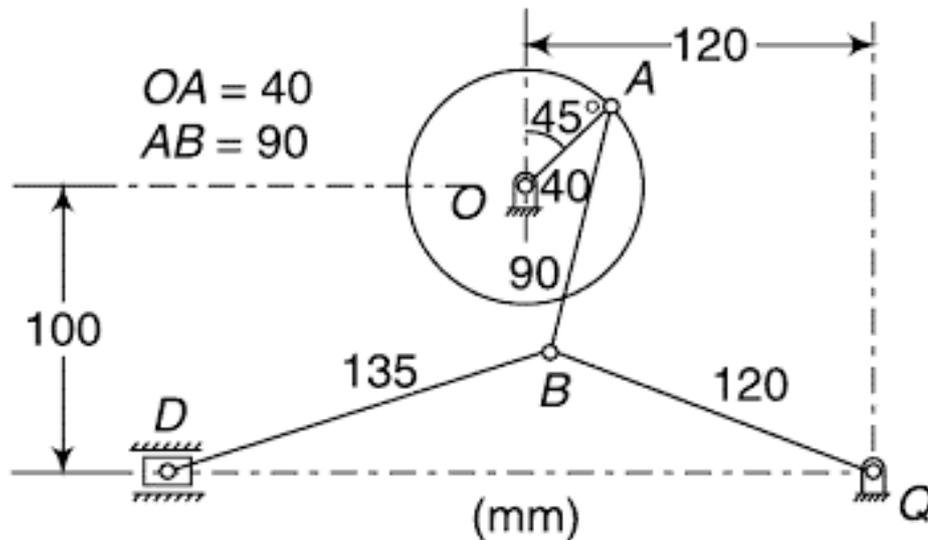

Figure Q2A
- 2A.** Figure Q2A shows a toggle mechanism in which the crank OA rotates uniformly at 120 rpm (clockwise). Find acceleration of the slider at D. The velocities of various links are given as follows: **(5)**